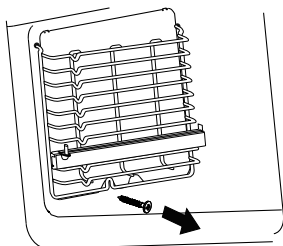

Figure 4
- To remove the rack, unscrew 1 piece of screw at the bottom side of wall using a '+' screwdriver. (Figure 4)